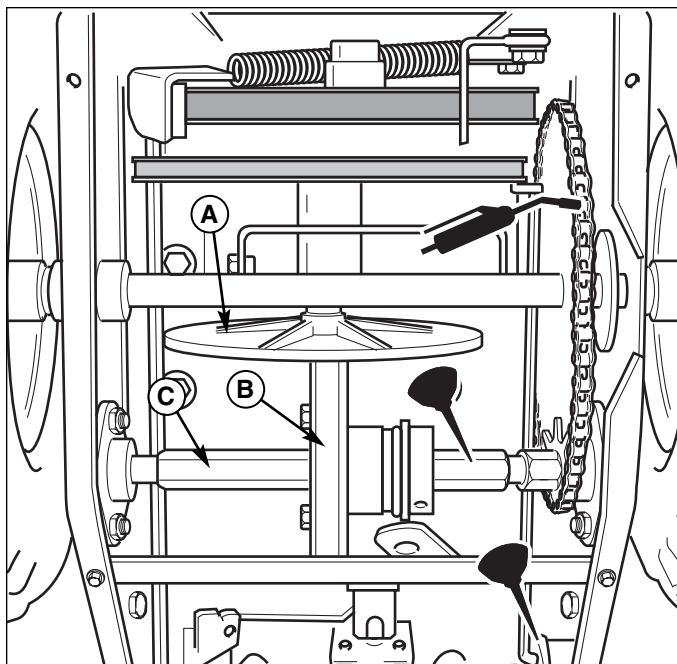

Figure 13. Drive Area Lubrication Points (Bottom Cover Removed)
Apply medium weight (10W) oil to points shown (See Figures 13 - 16).
Apply 5W-50 synthetic motor oil to the friction disc hex shaft (see Figure 13).
1. After 5 hours of use, check for proper adjustment. Readjust clutch cable if necessary by increasing tension on cable. A small amount of bellcrank arm movement is permissible if unit passes operating checks described in the Caution at left. **Optimal adjustment provides 3/16" clearance between traction drive disc and rubber ring on friction disc when drive lever is released** (see Figure 13 for friction disk location).